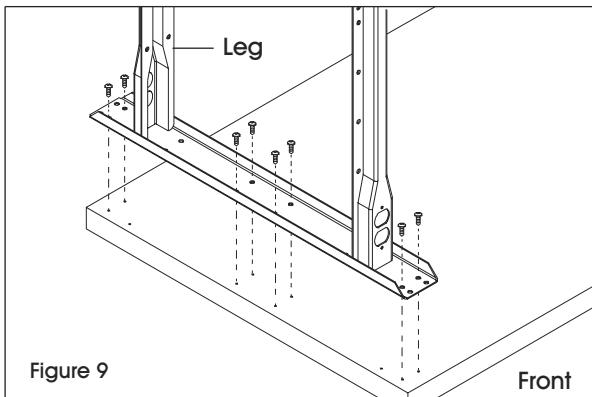

Figure 9
1. Using 17 wood screws, attach L-leg (14) and leg (2) to the underside of 48" top (12) through pre-drilled holes. (See Figures 9 and 10)